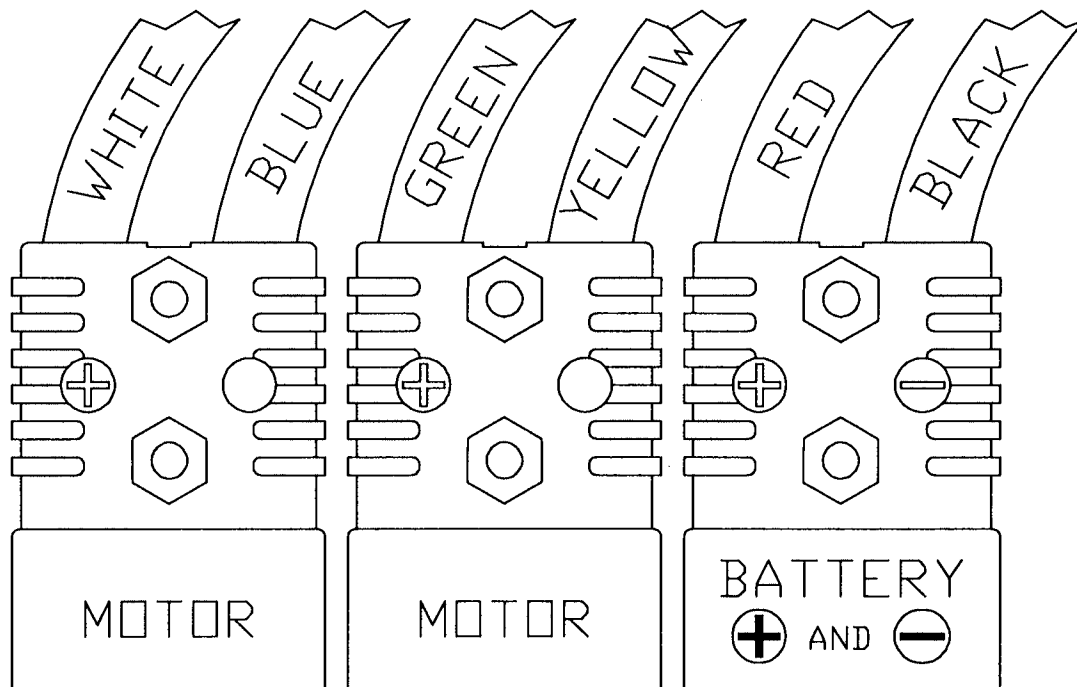

Figure 16 - Gang plug
- 1** Check voltage at the battery connector positive (+) and negative (-) terminals of the gang plug (red and black cables, Fig. 16). If not equal to battery voltage, check main power disconnect and battery connections for opens.
- 3** Re-check voltage at the battery connector positive (+) and negative (-) terminals of the gang plug (red and black cables, Figure 16). If not equal to battery voltage, check main power disconnect and battery connections for poor contacts.